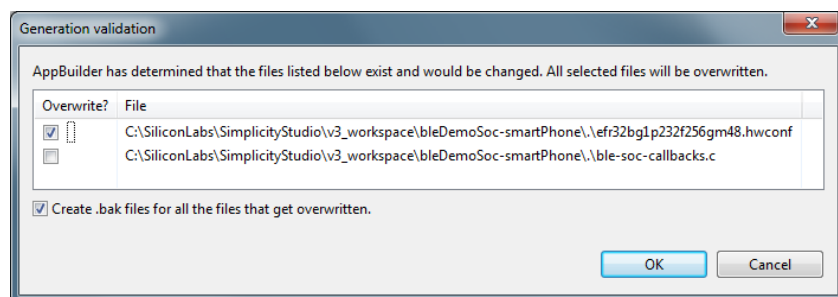

Figure 23. Generation Validation Dialog
2. An overwrite dialog is presented (Figure 23). **CAUTION:** If you are starting from a sample application, uncheck the box for the callbacks file. The implementation of the application is contained in the callbacks file, and overwriting it will remove the sample functionality.